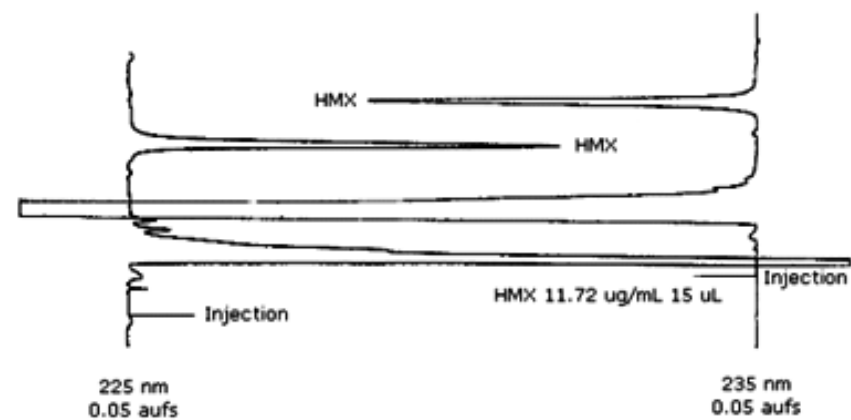

Figure 1 HPLC Chromatogram of HMX
3.5.2 Chromatogram (see Figure 1)